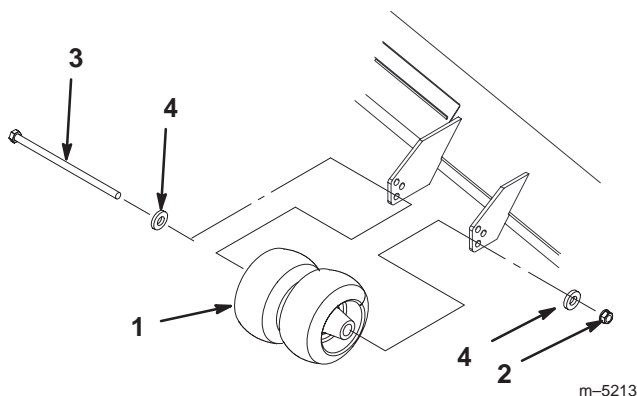

Figure 11
2. After adjusting height-of-cut, remove bolt and nut (Fig. 11).
3. Select hole so gage wheel is positioned to the nearest corresponding height-of-cut desired (Fig. 11).
4. Reinstall the bolt, center rollers and nut (Fig. 11).